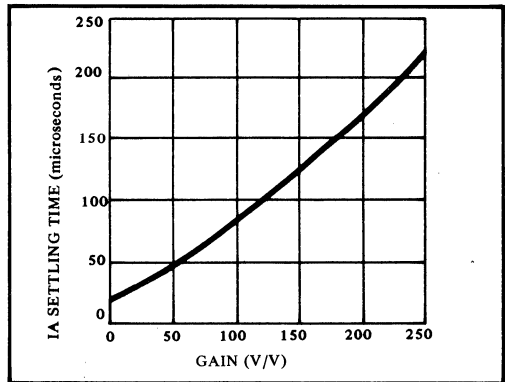
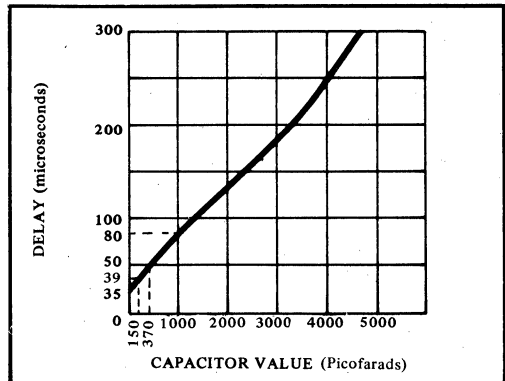

FIGURE 4. Typical IA Settling Time vs. Gain (Output Settling to ±0.1%).
FIGURE 5. Typical Delay Time vs. Capacitor Value.
4) Start conversion, then go to a different part of the program. The MP21 will interrupt at the end of conversion. The interrupt mode is very useful when the MP21 is at high gains with conversion times longer than 40µsec, see Figure 4. (MP21's INT line, pin 44, connected to the 6800's IRQ line, pin 4.)
A delay time between channel selection and start of conversion is built into the MP21 to allow the analog multiplexer and instrumentation amplifier (IA) time to settle before starting the A/D converter. As the gain of the amplifier is increased, the settling time required increases. The factory set delay time (35μsec) is sufficient for gains of up to 10. At higher gains, a capacitor must be added from pin 49 to the +5 VDC supply to increase the delay time. Figure 4 shows the settling time of the MP21 vs. gain. Figure 5 shows the value of capacitance required to increase the delay.
with this formula: $T_D = \sqrt{T_{mux}^2 + T_{IA}^2}$, where T_{mux} is the settling time of the multiplexer and T_{IA} is the settling time of the instrumentation amplifier as shown in Figure 4. If the source bandwidth can be limited, high impedance sources may be accurately handled by placing a large capacitance across the multiplexer input. An analysis of such a circuit shows that a capacitor of $0.5\mu\text{F}$ is sufficient. For such a capacitance the multiplexer time constant becomes 80ns.